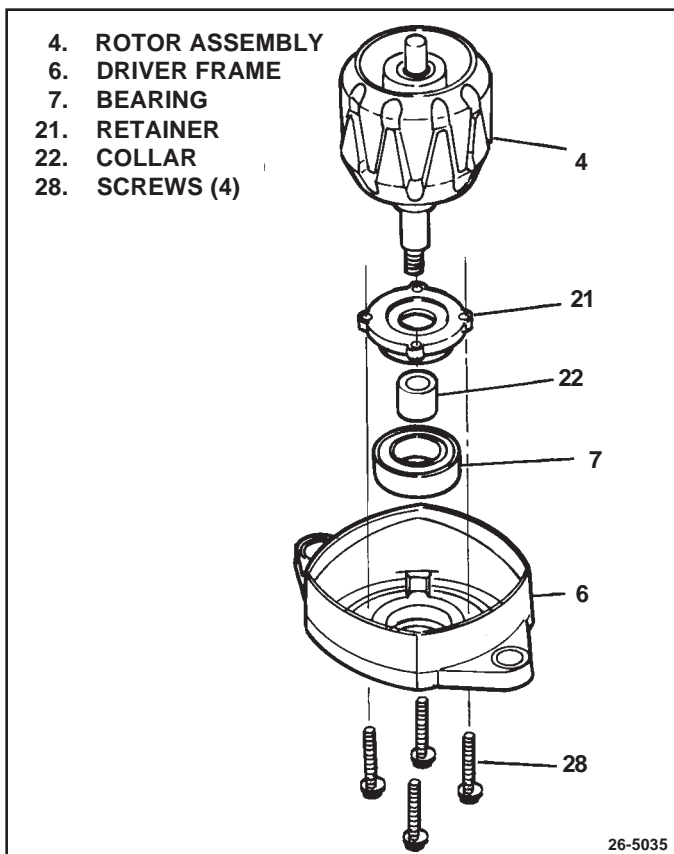

Figure 30. Installing Rotor in Drive End Frame
4. Hold drive end assembly (6) with long end of rotor shaft down so that bearing retainer plate (21) falls against housing (1), then align retainer with screw holes. (See Fig. 30) Start each of the four retainer attaching screws (28), then tighten screws gradually in sequence to pull retainer squarely against bearing.